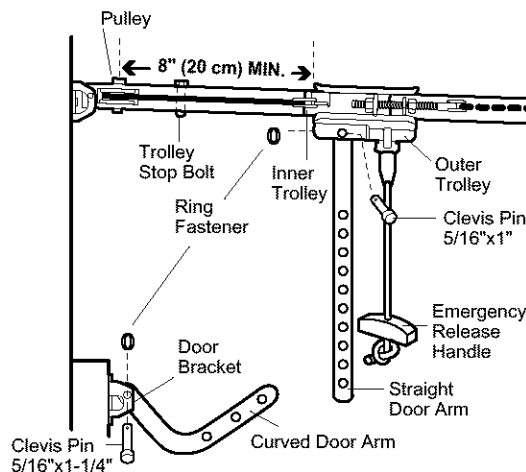

Figure 1
- Make sure garage door is fully closed. Pull the emergency release handle to disconnect the outer trolley from the inner trolley. Slide the outer trolley back (away from the pulley) for 8" (20 cm) minimum as shown in Figures 1, 2 and 3.
• Figure 1: